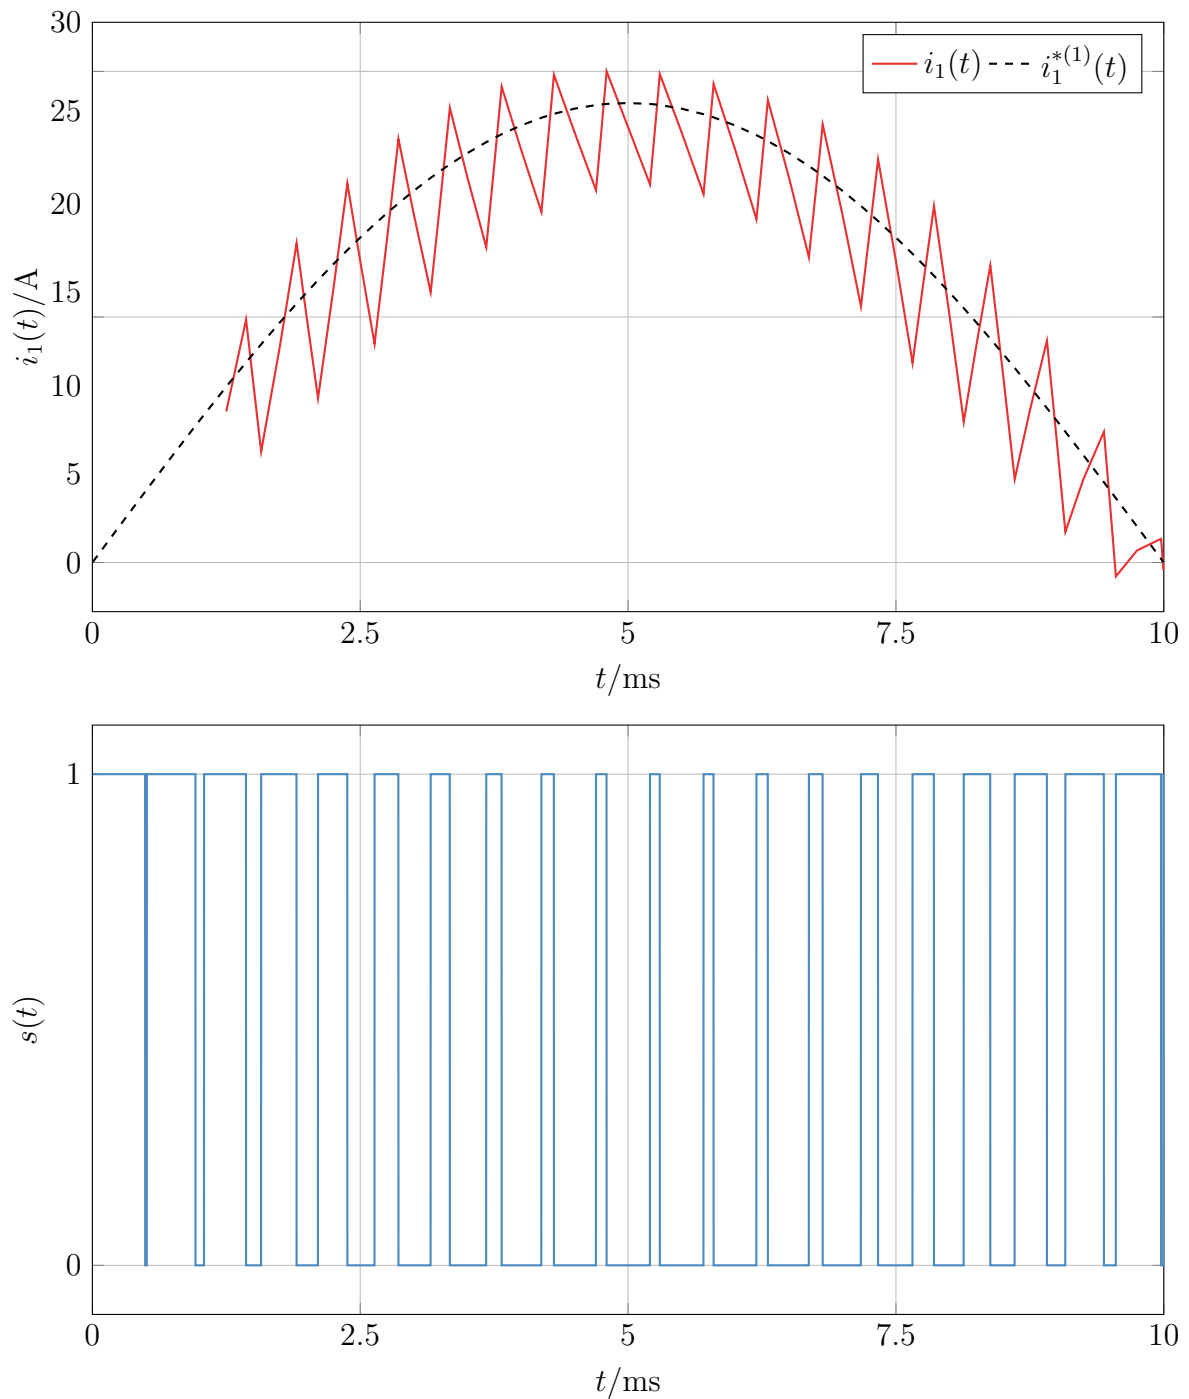
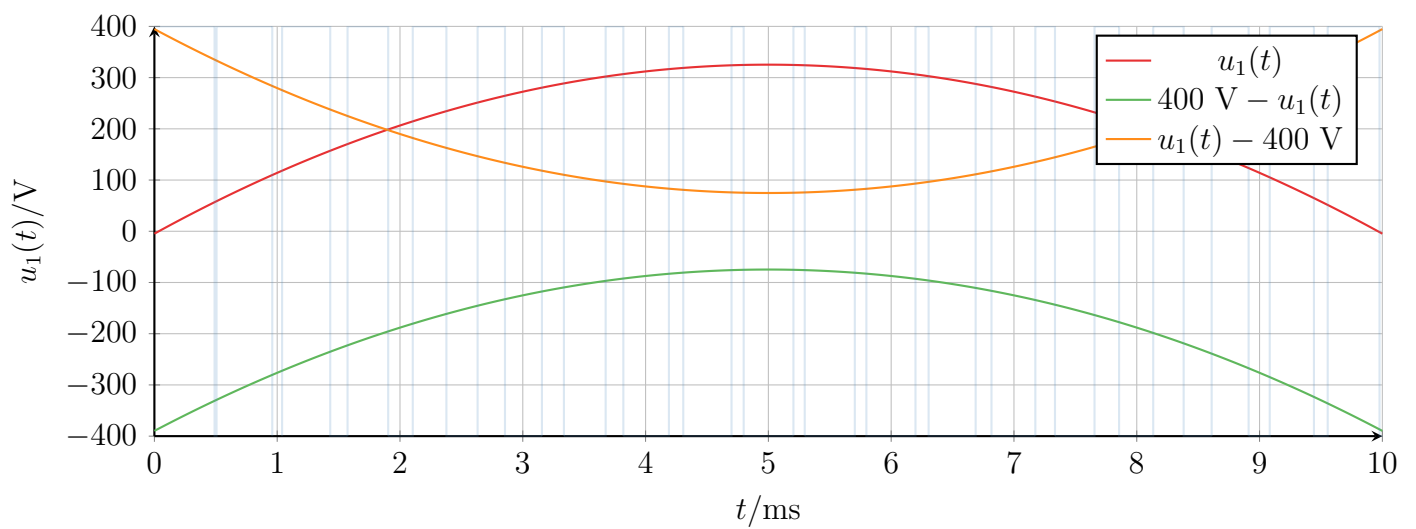

Figure 5.2.2: Incomplete representation of the mains current  $i_1(t)$  and control signal  $s(t)$  for power transistor  $T$ .
Figure 5.2.3: Voltage curve  $u_1(t)$  with signal for transistor  $T$ .
5.2.4 Complete the current curve for a switching frequency  $f_{s2} = 2$  kHz and an inductance  $L = 5$  mH in Fig. 5.2.2. Note: At the time  $t = 0$  is  $i' = 0$ . The switch-on and switch-off times are determined by the control signal of the transistor  $T$  and are summarized for the first 4 switching times in Tab. 5.2.2.
5.2.5 Approximately sketch the envelope of the current ripple in Fig. 5.2.2. Sketch the voltage across the inductor in Fig. 5.2.3 and enter the average value of the voltage as an approximation. How would the switch-on/switch-off ratio of the transistor have to be changed before and after the current peak in order to bring the average actual current value closer to the current setpoint?